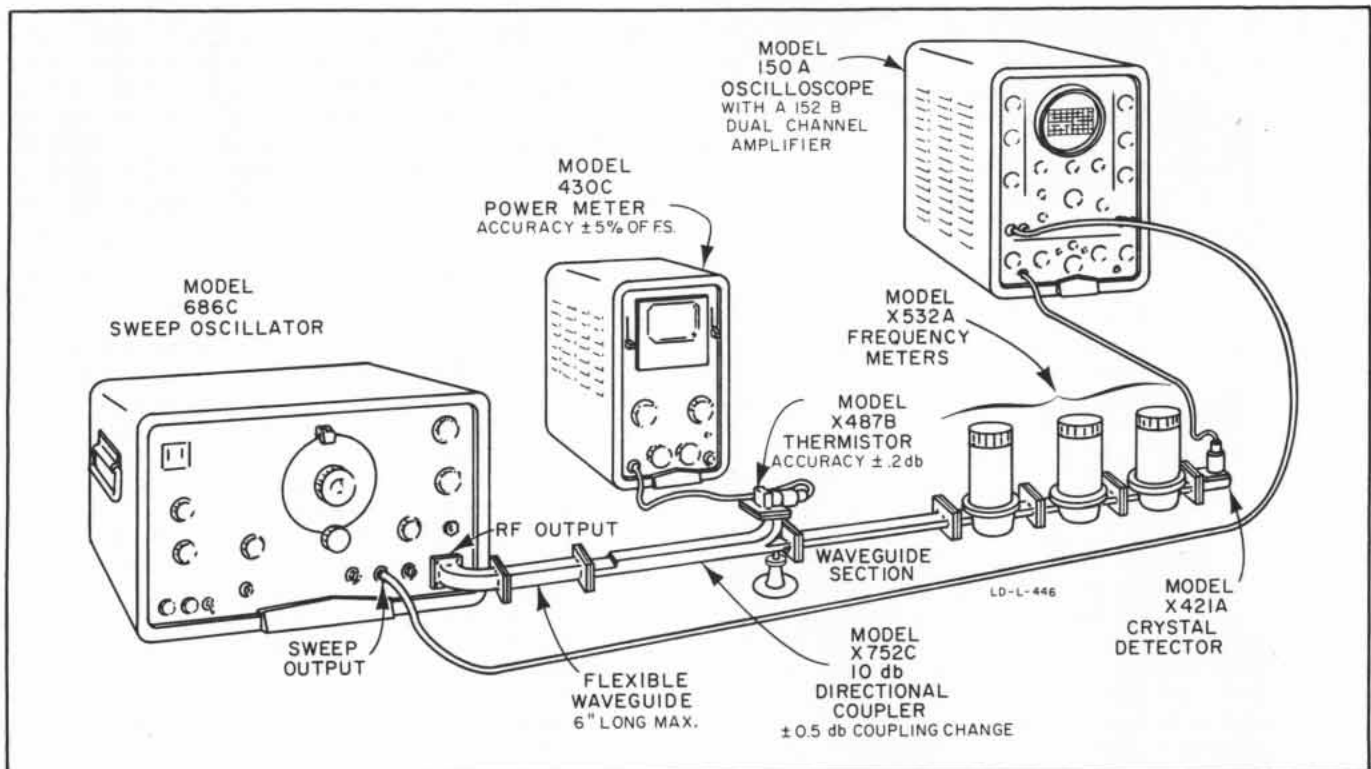
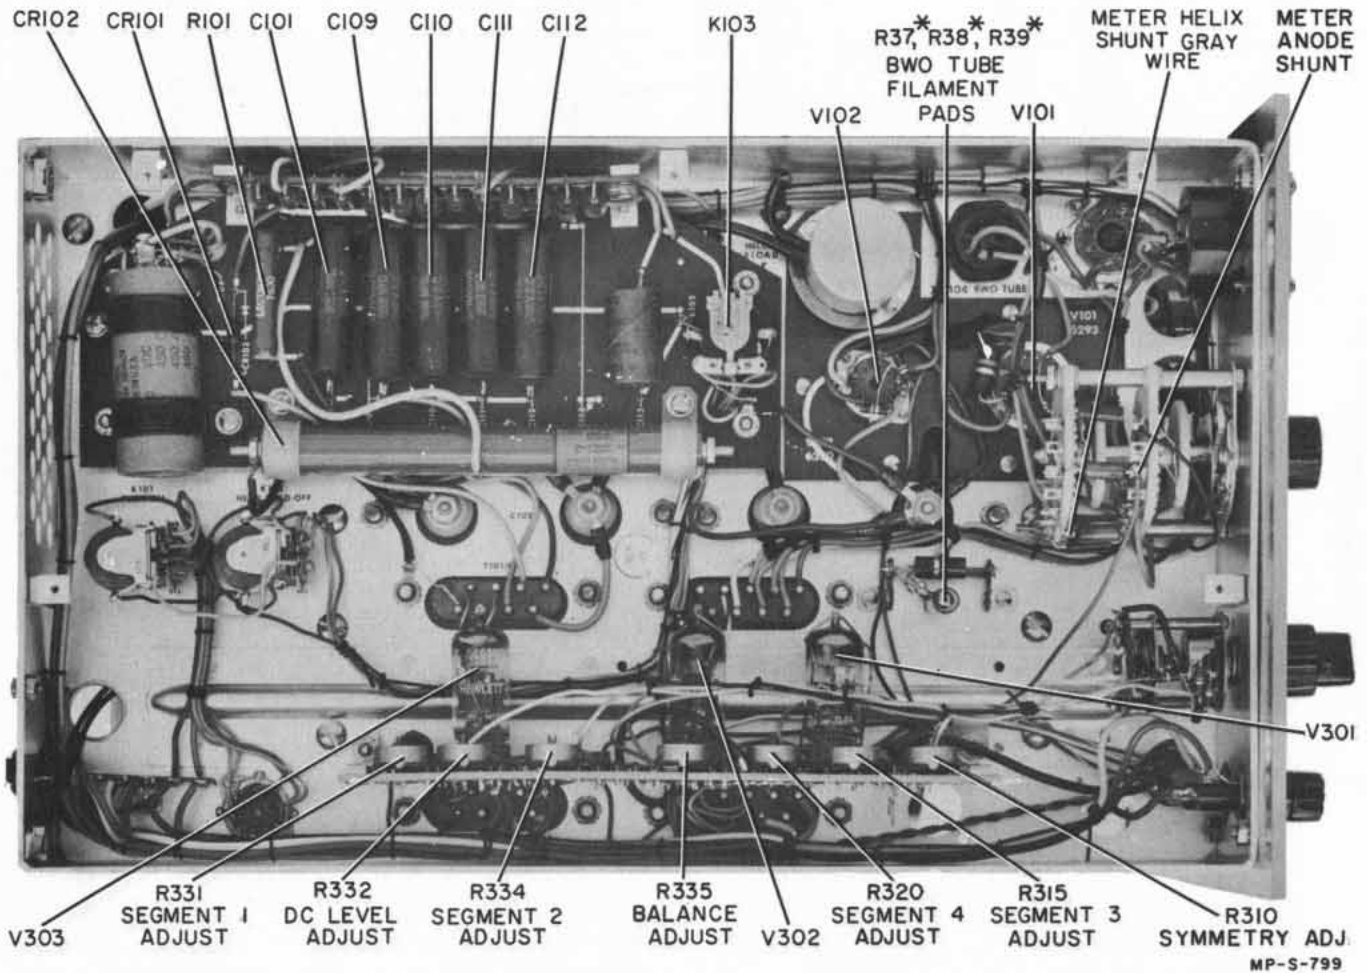

Figure 4-14. RF Leveler Calibration Setup
Figure 4-16. Model 686C Left Side View
5) While observing on oscilloscope, adjust Square Wave Symmetry Adj. R310 (figure 4-16) so the symmetry is better than 40 - 60%.
a. Set up 686C as shown in figure 4-14.
- a. With 686C set up as shown in figure 4-14, connect a test probe (not shown) from the anode of the bwo (see figure 4-16) to oscilloscope (channel B).
- (1) CATHODE CURRENT set to value and at frequency recorded in step 1k.
- (2) SWEEP SELECTOR to RECUR.
Check filament voltage for V104 by placing an ac vtm across parallel combination of R37, R38, R39 (see figure 4-16, left side view); no 6.3 volts ac, replace R36.